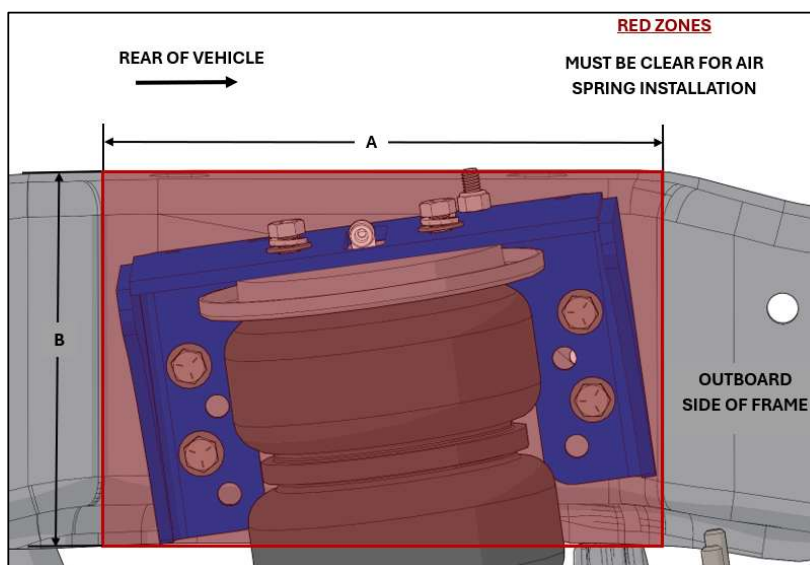

Figure 1. Clearance Requirements, Part 1
1. The **red zones** indicated in Figures 1 & 2 must be clear of **AFTERMARKET** components for the installation of the aftermarket air suspension kit.